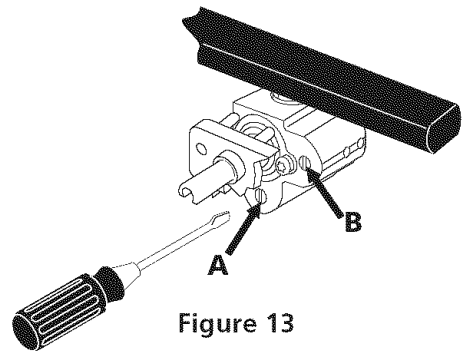

Figure 13
5. Adjust the "LOW" Setting of the Dual (Bridge) Surface Burner Valve (Figure 13):
- The rear portion of the bridge burner flame size can be increased or decreased by turning screw **A** (see Figure 13). Use screw **B** to adjust the flame size of the center portion of the bridge burner. Turn counterclockwise the screw to increase flame size. Turn clockwise the screw to decrease flame size. Adjust flame until you can quickly turn knob from LITE to LOWEST POSITION without extinguishing the flame. Flame should be as small as possible without going out.